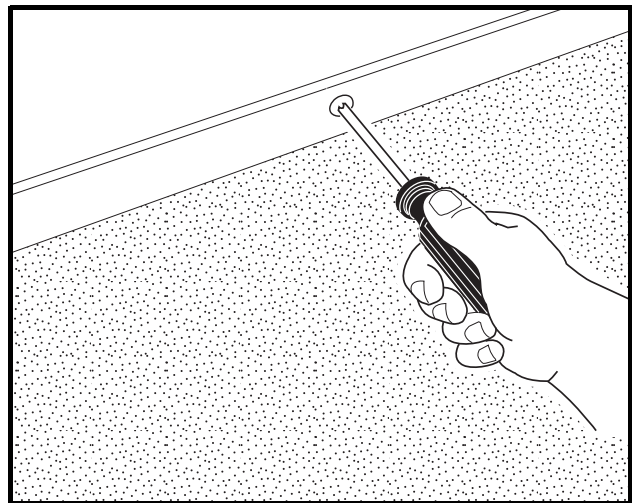

Figure 4-8 Kick-Plate Screws
6. Remove two screws, washers and nuts located at the bottom edge of the seat support panel (in kick-plate just above the floor mat) (**Figure 4-8, Page 4-7**).
- 1.1. Tighten kick-plate nuts to 48 in-lb (5.4 N·m) while holding the kick-plate screws (**Figure 4-8, Page 4-7**).